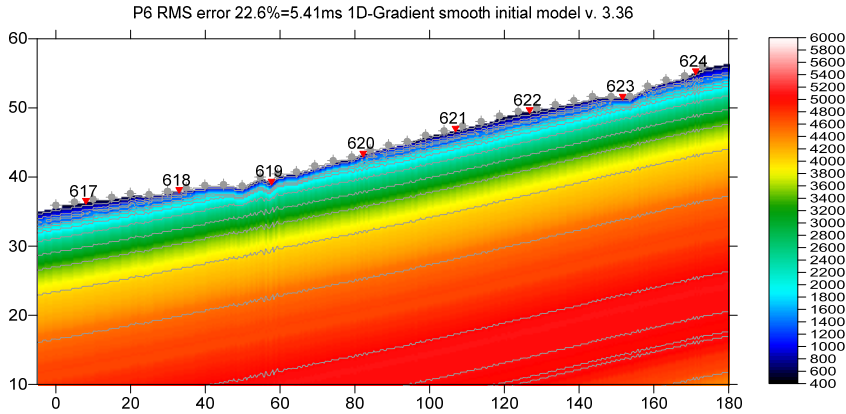

Fig. 5 : 1D-gradient starting model obtained with *Smooth invert|WET with 1D-gradient initial model*
- wait for the 1D-gradient starting model to display as in Fig. 5
Surfer plot limits shown in Fig. 4 are used for WET inversion output (Fig. 6&7) only and not for the 1D-gradient starting model (Fig. 5). To display the starting model using these plot limits :
Fig. 6 : 2D WET output obtained with *Smooth invert|WET with 1D-gradient initial model* & starting model shown in Fig. 5. 20 WET iterations using Steepest Descent method & Gaussian update weighting & full WET smoothing.